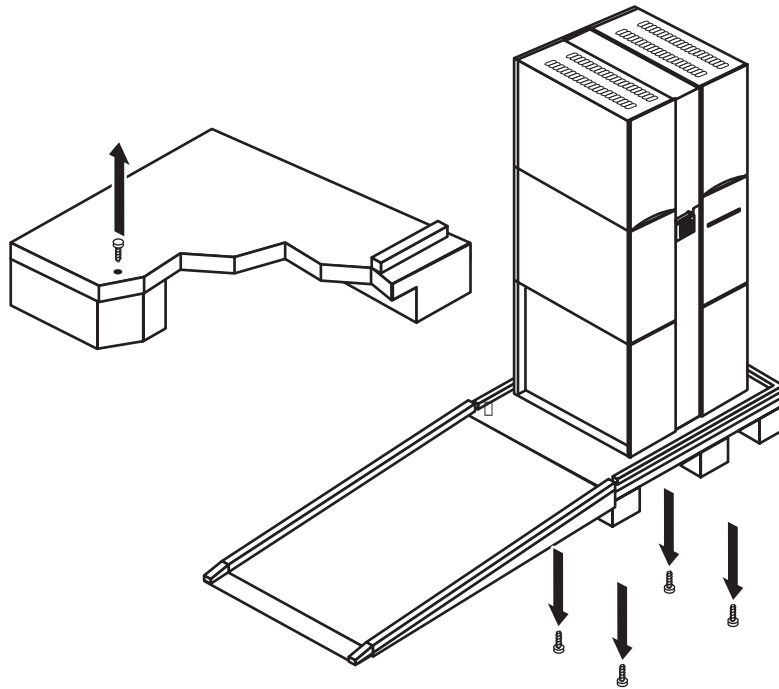

Figure 6: Removing the pallet bolts
9. Remove the 4 bolts securing the jukebox to the pallet (see Figure 6).